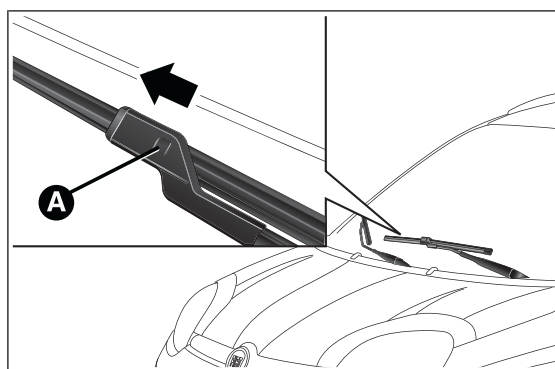

fig. 145
- ☐ raise the wiper arm, press tab A fig. 145 of the attachment spring and remove the blade from the arm;